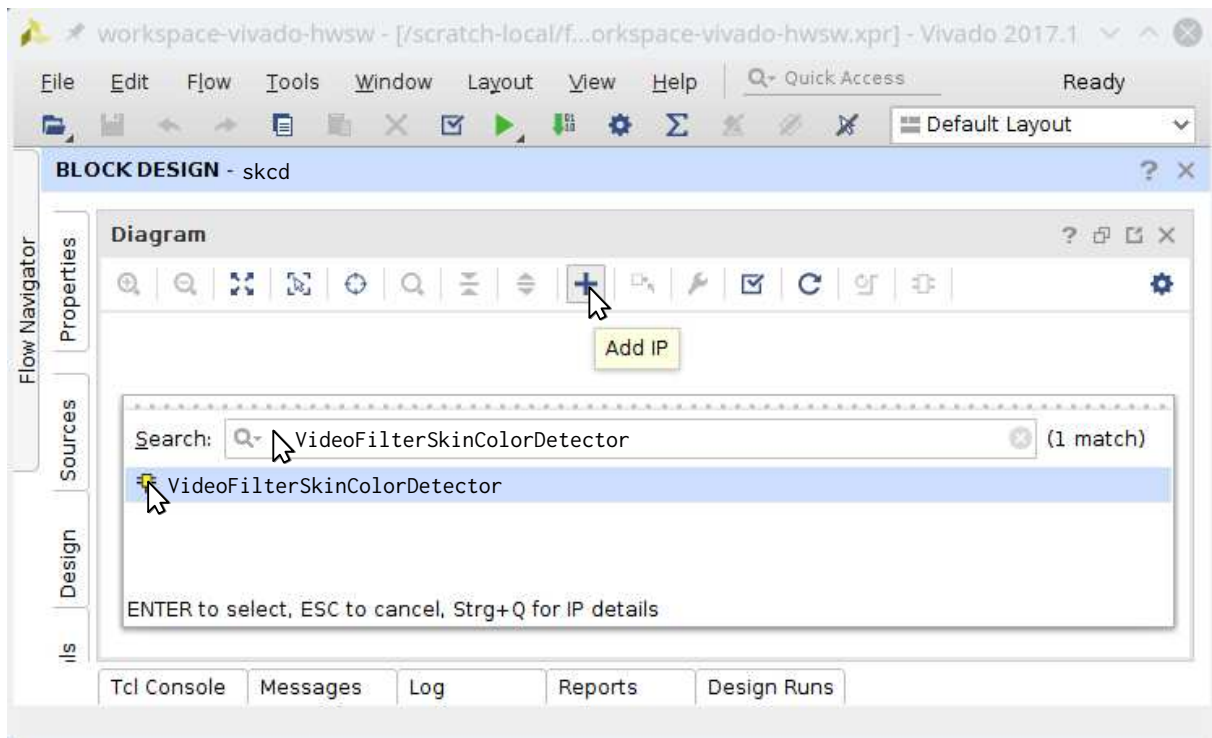
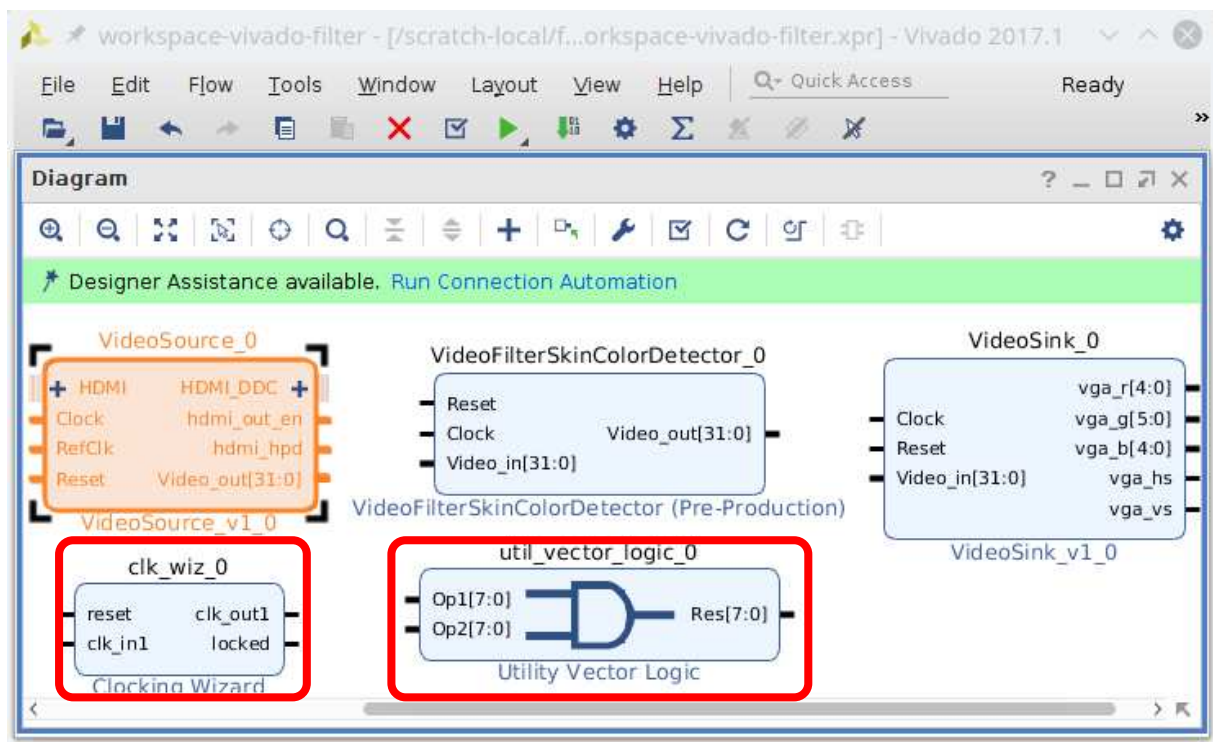

Figure 28: Add the IPB “VideoFilterSkinColorDetector” to the skcd block design
Figure 29: All IPBs for the skcd block design
- n) Add the IPBs "VideoFilterSkinColorDetector", "VideoSource", "VideoSink", "Cloning Wizard", and "Utility Vector Logic" to the empty skcd block design (see Figure 28). This should result in a block design similar to the one depicted in Figure 29. However, the IPBs